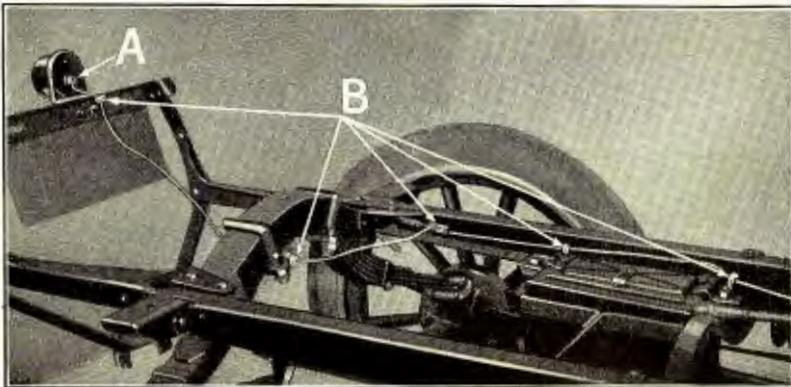

Fig. 40
- (a) Disconnect tail lamp wire at tail lamp (See "A" Fig. 40) and withdraw wire through the five tail lamp wire bushings "B".